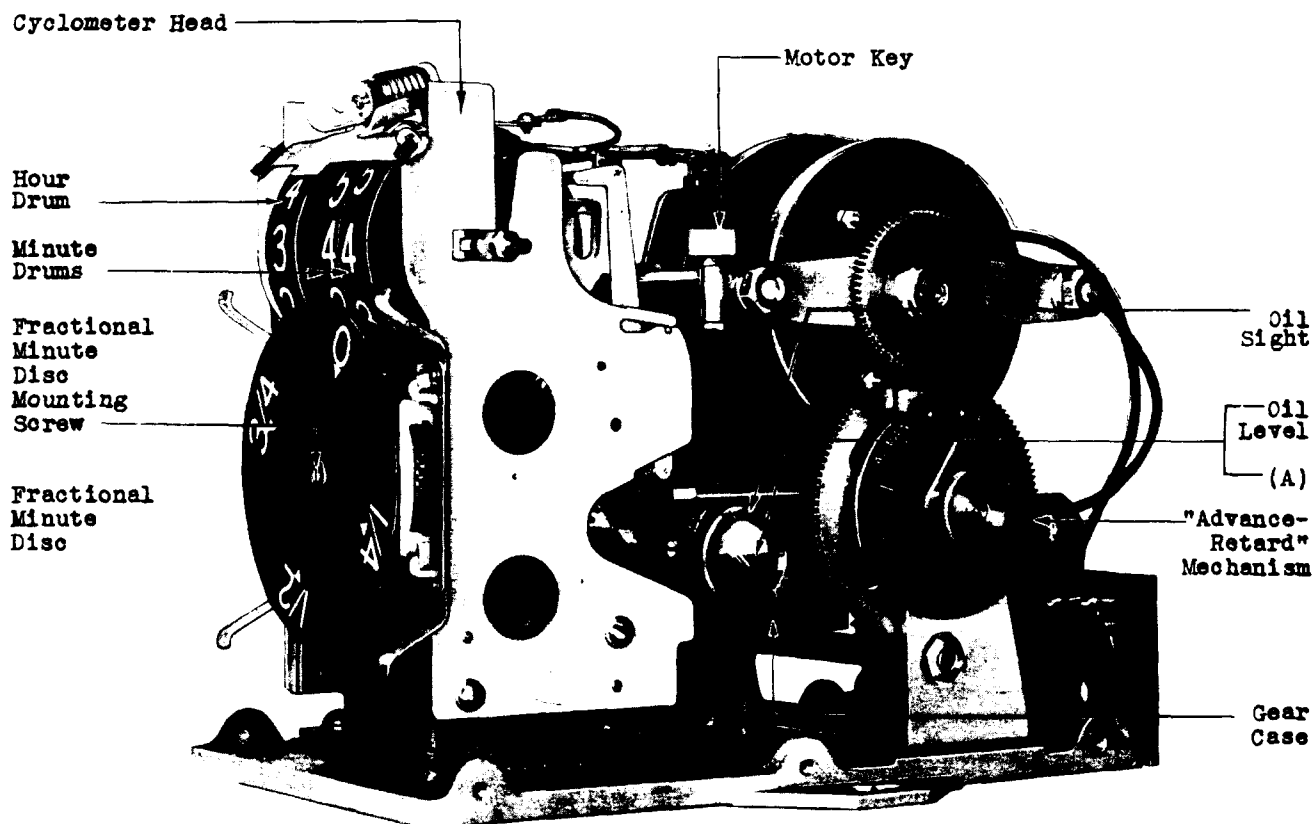

Fig. 2 - Illustrating Gear Case and Cyclometer Head
(b) Fig. 2 (A) - With the motor stopped, the gear case shall be filled to approximately the centerline of the oil sight with KS-6232 oil.